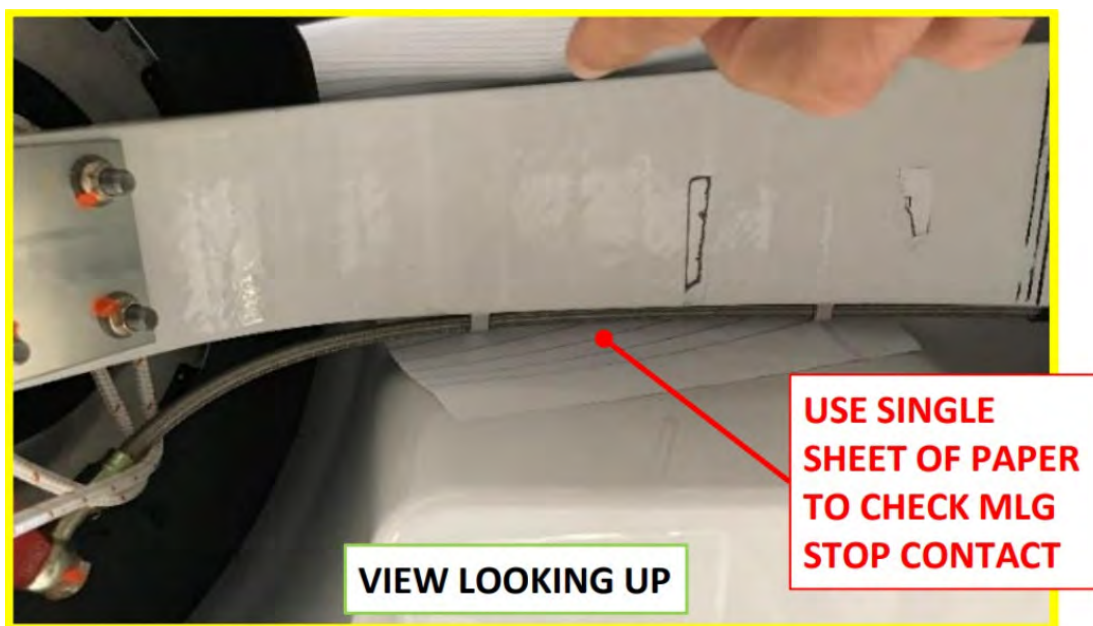

FIGURE 14-27
4. Adjust until a single sheet of paper slides with slight drag between MLG strut and stop. Both bumpers may touch if contact is made simultaneously. (See Figure 14-27.)